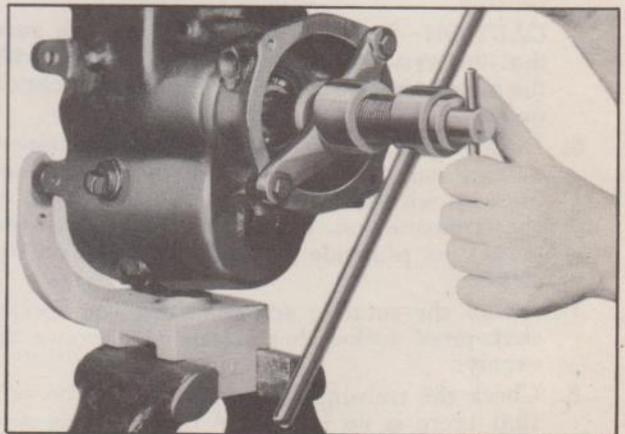

Fig. 12—Installing Mainshaft
3. Turn the tool handles counterclockwise until the mainshaft is seated in the rear bearing, Fig. 12. The proper seating of the shoulder on the shaft against the inner race of the bearing may be determined by checking the end play of the second speed gear which should be approximately .010".